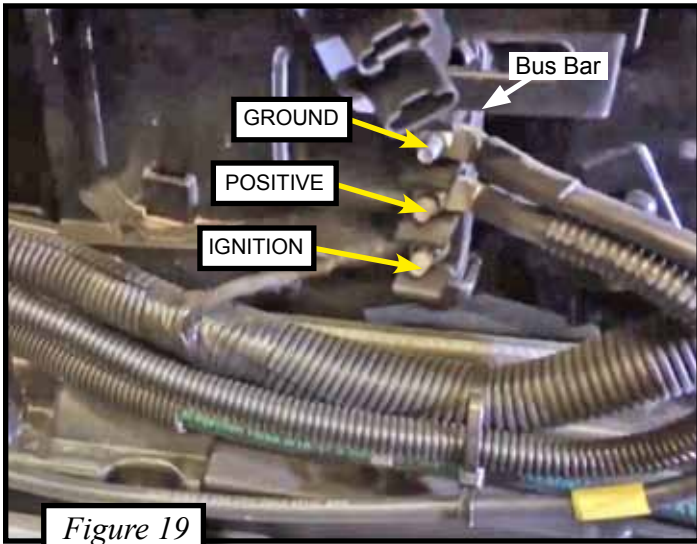

Figure 19
24. Route the switch wires from the dash down to the contactor location. Attach the ignition fed wire (RED) from your switch to the ignition post on the bus bar. Shown in Figure 19.